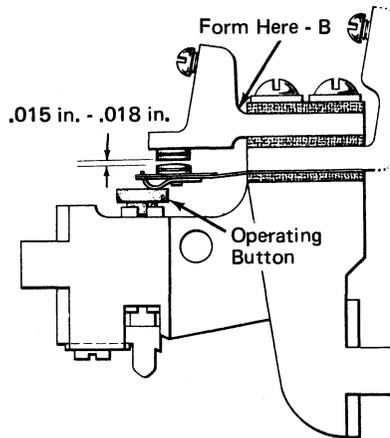

Figure 3-8. Plunger Circuit Breaker—Adjustment 2
2. The upper contact support should be formed at point B (Figure 3-8) to provide a .015-inch to .018-inch clearance between the upper contact and the lower contact when in its normal position resting on the plunger.